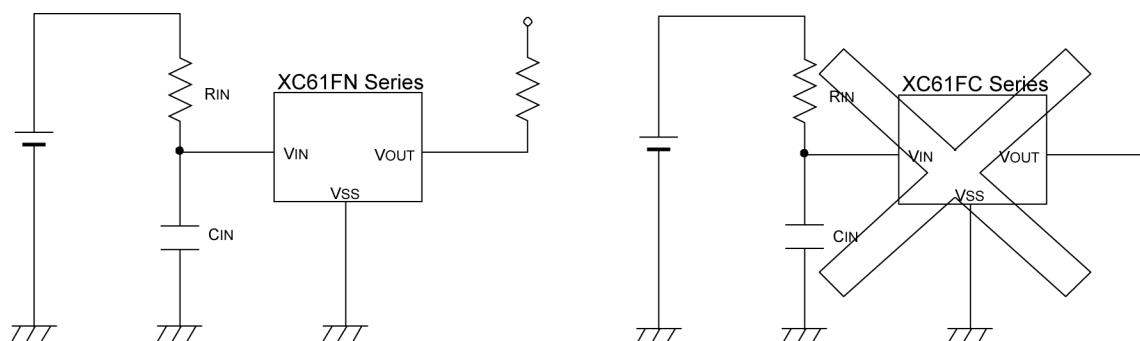

Figure 1. When using an input resistor
2. When a resistor is connected between the VIN pin and the input with CMOS output configurations, oscillation may occur as a result of voltage drops at R_{IN} if load current (I_{OUT}) exists. It is therefore recommend that no resistor be added. (refer to Oscillation Description (1) below)
3. When a resistor is connected between the VIN pin and the input with CMOS output configurations, irrespective of N-ch output configurations, oscillation may occur as a result of through current at the time of voltage release even if load current (I_{OUT}) does not exist. (refer to Oscillation Description (2) below)
- Further, please ensure that R_{IN} is less than 10kΩ and that C_{IN} is more than 0.1μF (Figure 1). In such cases, detect and release voltages will rise due to voltage drops at R_{IN} brought about by the IC's supply current.